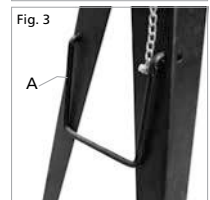

Fig. 3
3. Put the handle (A, Fig. 3) through holes in the stand legs opposite of the wheel assembly and secure with split pins.